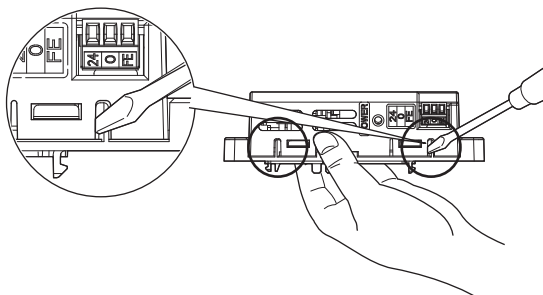

Figure 7 Removing the 24 V Power Supply Option Cover to Expose Connection Sockets
1. Insert a flat-blade screwdriver into two small slots on the side of the 24 V Power Supply Option cover to lift the cover off its mounting attachment as shown on Figure 7.